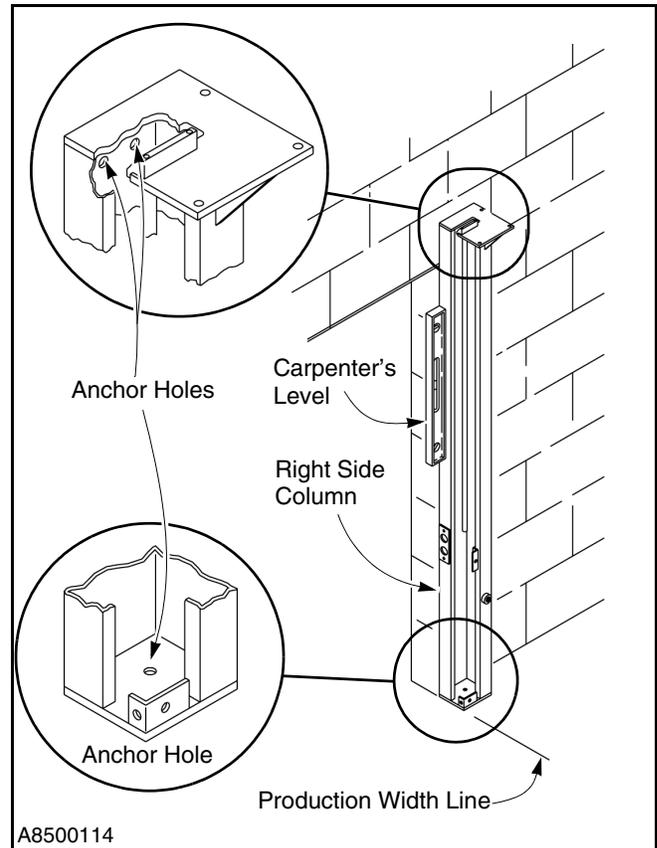

Figure 13
3. Stand the right side column on the floor. Place it against the wall, just outside the line indicating the production width of the door. (See Figure 13.)
4. Once the side column is set plumb and square, anchor it to the wall and floor. (See Figure 13.) Pre-drilled anchor holes have been provided in the side column. DO NOT securely tighten the anchors at this time — they will be tightened later on, after the head assembly is installed.